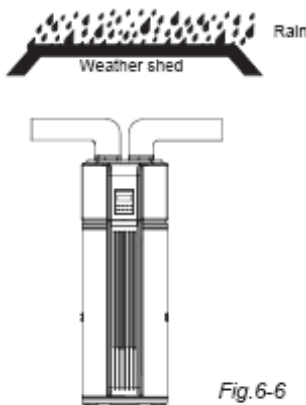

Fig. 6-6
- When the main unit is connected with canvas duct reaching to outdoor, a reliable water-resistant measure must be conducted on the duct, which resist water drop into internal of the main unit. (Fig. 6-6)